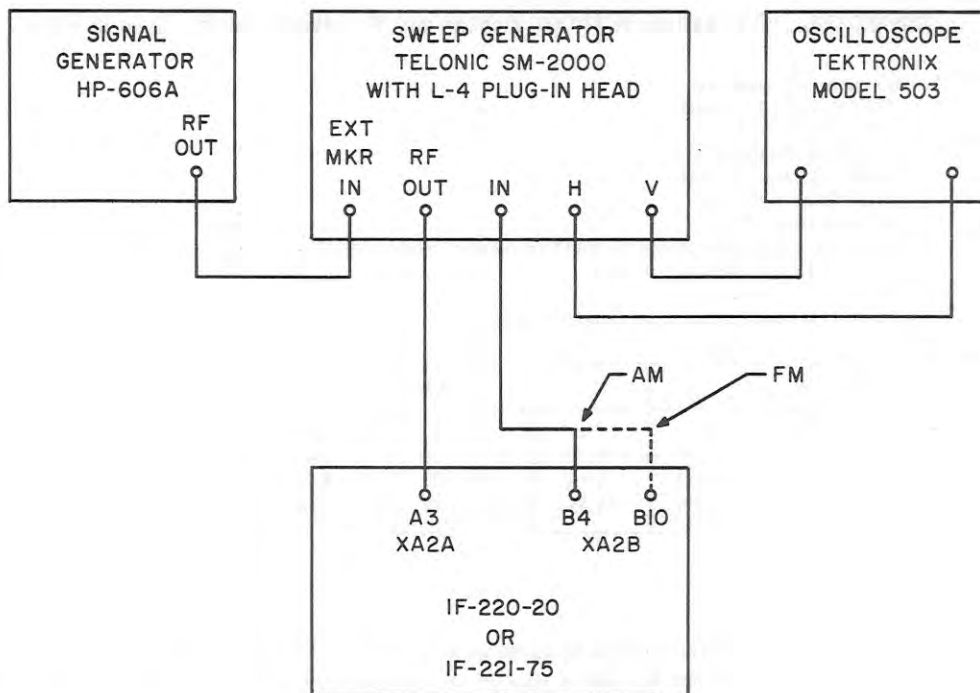

Figure 5-1. IF Amplifier Test Set-Up
- (1) IF-220-20: Connect the test equipment as illustrated in Figure 5-1.
- f. Change the connection from the AM to the FM output terminal at XA2B10 as illustrated in Figure 5-1.